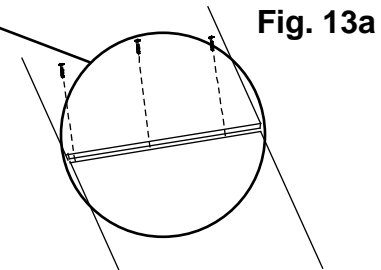

Fig. 13a
Place three #8x1-1/4" Black Screws (E) along the seam between the Deckboards (R) and (S). See Figure 13a.